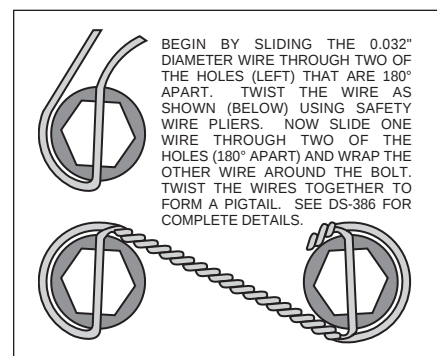

Figure 2. Safety Wire Diagram
- **NOTE:** When cross-drilled bolts are supplied with the rotor bolt kits, the additional step of safety wiring bolts is recommended. Safety wire bolts using standard 0.032 inch diameter stainless steel safety wire as shown in Figure 2. Please refer to Wilwood's data sheet DS-386 (available at www.wilwood.com/Pdf/DataSheets/ds386.pdf) for complete safety wire installation instructions.